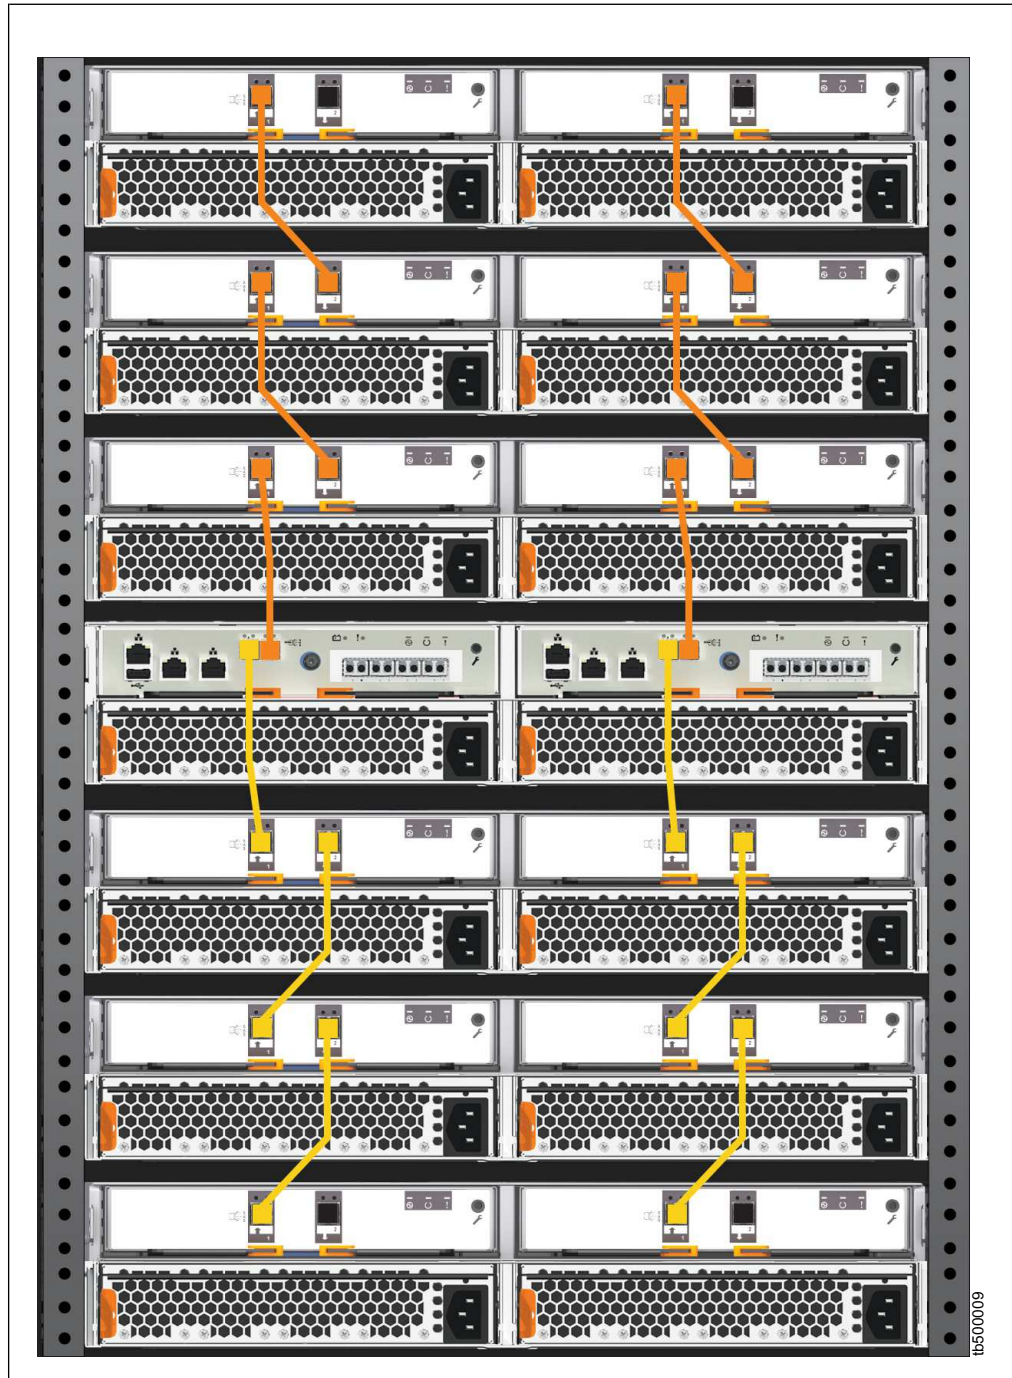

Figure 20. Connecting the SAS cables to a Storwize V5030 system
Figure 20 on page 29 shows how to connect SAS cables on a Storwize V5030 system. In this figure, two expansion chains are connected to the Storwize V5030 system.
2. To add a second expansion chain to the Storwize V5030 control enclosure, use the supplied SAS cables to connect the control enclosure to the expansion enclosure at rack position 2, as shown in Figure 20.
3. If more expansion enclosures are installed, connect each one to the previous expansion enclosure in a chain; use two Mini SAS HD to Mini SAS HD cables, as shown in Figure 20 on page 29.